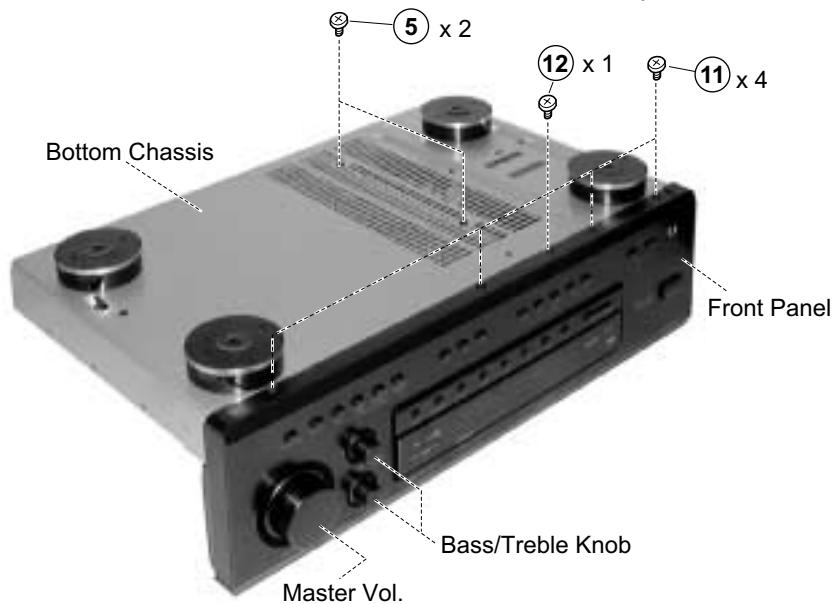

Fig. 5
- (a) Invert the Bottom Chassis, remove 2 screws 5 connect to the heat sink. (Fig. 5)
- (a)Release the inner panel from the Bottom Chassis by remove 1 screw # (Fig. 5) and 2 screws \$.